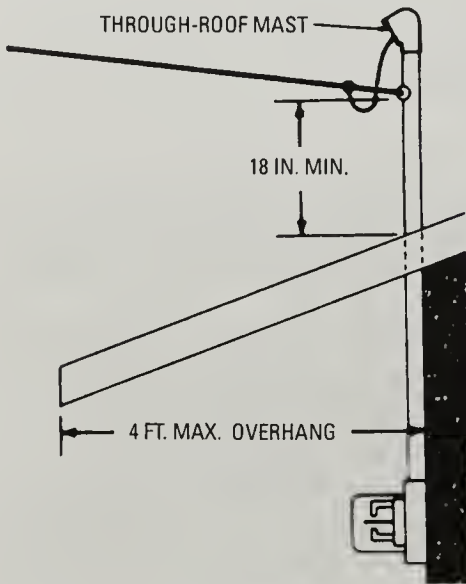

Figure 2-13 Conductors passing over a portion of a roof and terminating at a through-the-roof service raceway have different clearance requirements.
Exception No. 3: Where the voltage between conductors does not exceed 300, a reduction in clearance above only the overhanging portion of the roof to not less than 18 inches (457 mm) shall be permitted if (1) not more than 4 feet (1.22 m) of service drop conductors pass above the roof overhang, and (2) they are terminated at a through-the-roof raceway or approved support [Figure 2-13]. See Section 230.28 for mast supports.
A portion of this subject was covered earlier in the chapter. Figures 2-13 and 2-16 showed, respectively, service masts and the conductors from the tap to the service drop, on down to the meter. From this point to the service equipment the conductors are service-entrance conductors.